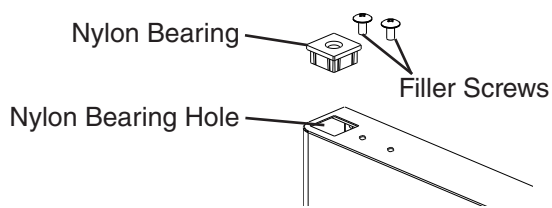

Fig. 14
- 7) Rotate the door 180 degrees, to its new orientation. Remove the nylon bearing and filler screws. See Fig. 14. **NOTICE! Care should be taken not to damage the door.** Mount the nylon bearing and filler screws into the holes left by the spring cartridge in the lower section of the door. See Fig. 15.